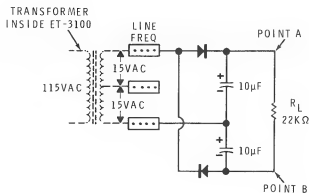

Figure 4-78
39. Turn the ET-3100 off and construct the circuit shown in Figure 4-78. Be sure to observe polarity when connecting the diodes and capacitors.